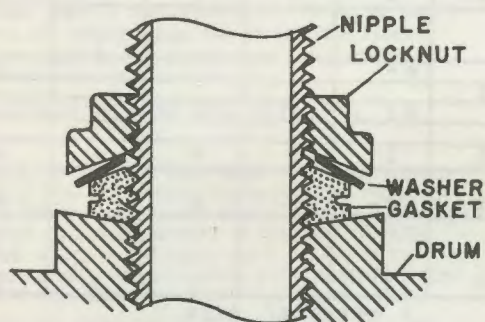

FIGURE NO. 8
2. TIGHTENING LOCKNUTS - WHEN ALL NIPPLES HAVE BEEN MADE UP TIGHT INTO SECTIONS, SCREW EACH LOCKNUT TOWARD NIPPLE BOSS ON DRUM UNTIL IT IS HAND TIGHT AND THE GASKET IS TIGHT AGAINST THE BOSS. SEE FIGURE NO. 8.